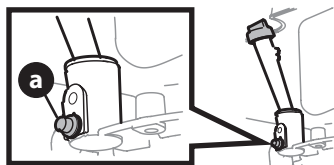

Figure 8
2. Remove oil drain plug (a) and allow oil to drain into a suitable container (Figure 8 on page 11).